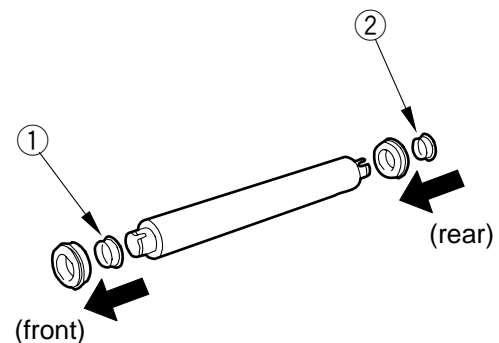

Figure 6-220a
b. Be sure to install the collars ① ② of the bushing in the correct order shown in Figure 6-220a.